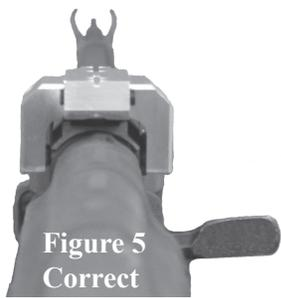

Figure 5
- 5.2 Assume a shooting position with the rifle so that the barrel is raised slightly from horizontal and you can look down (not through) at the aiming groove in the base in relation to the front sight. You want the whole groove in alignment with the front sight (See figure 5).